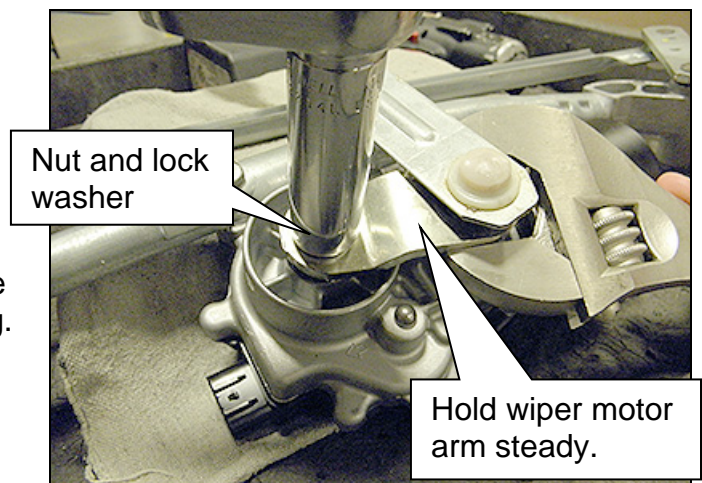

Figure 3
3. Remove the nut and lock washer that holds the wiper motor arm to the wiper drive assembly (Figure 3).
HINT: An expandable wrench (shown in Figure 3) can be used to prevent the arm from moving.